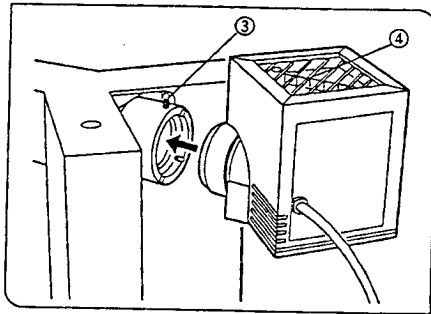
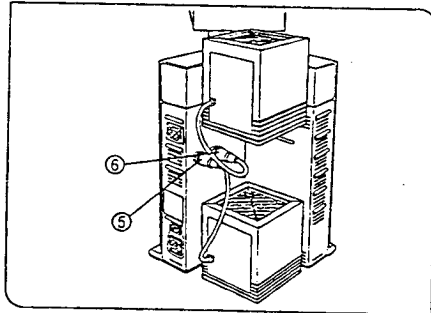

Fig. 12
Fig. 13
1. Using the Allen screwdriver, fully loosen the lamp housing clamping screw ③ on the reflected light port on the microscope. (Fig. 12)
2. Insert the lamp housing collector unit into the lamp port until it touches the lamp housing mounting collar on the back of the base (upper part), then tighten the clamping screw ③. (Fig. 12)
- ⚠ Attach the lamp housing horizontally with the radiating fin ④ upward and make sure to allow ample free space above, below and behind the lamp housing.
3. Insert the cord plug from the transmitted light lamp housing securely into the power outlet ⑤. Insert the cord plug from the reflected light lamp housing securely into the power outlet ⑥. (Fig. 13)